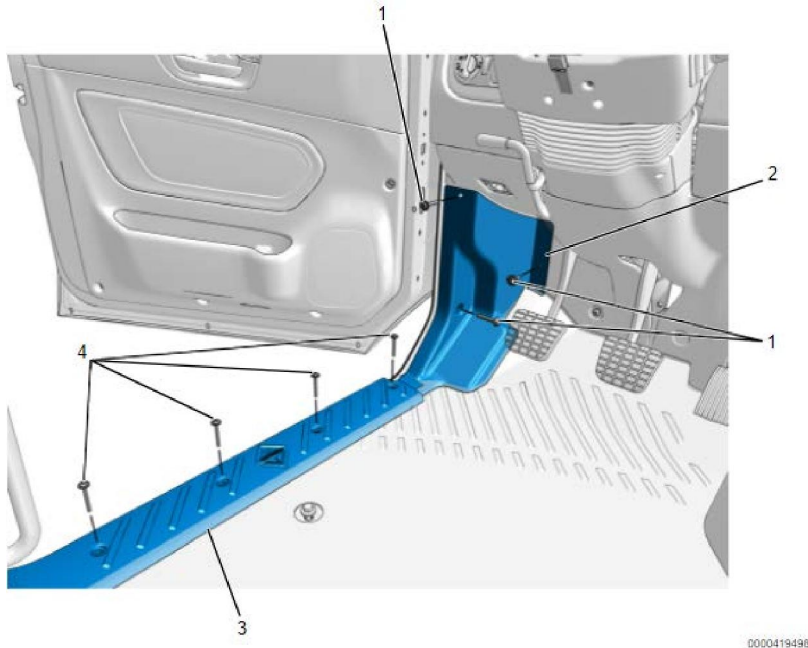

Figure 1. Driver-Side Scuff Plate and Kick Panel
1. Kick panel bolt and screw (3)
4. Scuff plate screw (4)
7. Remove driver-side scuff plate screws (Figure 1, Item 4). Save screws for reuse.
8. Carefully remove driver-side scuff plate (Figure 1, Item 3) and place on clean workbench.
9. Remove driver-side kick panel bolts and screws (Figure 1, Item 1). Save bolts and screws for reuse.
10. Carefully remove driver-side kick panel (Figure 1, Item 2) and place on clean workbench.